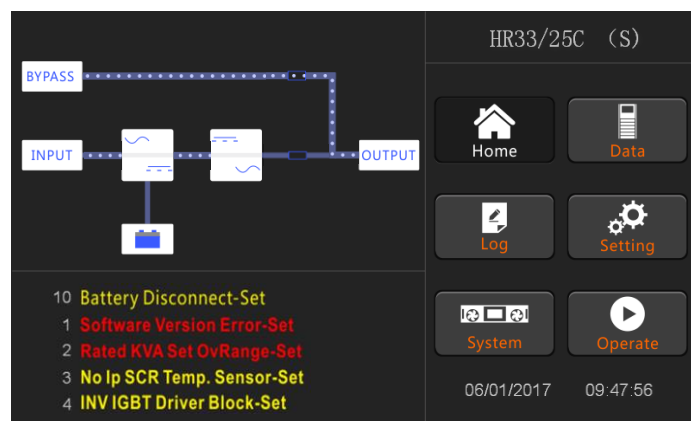

Fig.5-3 Interface of inverter starting
6. After the bypass static switch is on, the inverter starts and the inverter indicator bar flashes as shown in Figure 5-3.